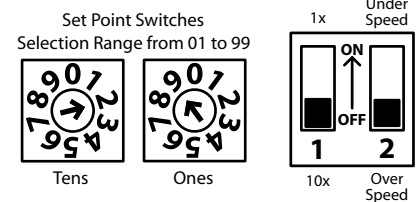

Figure 6: Setpoint Setup
1. Determine whether the relay should de-energize when the shaft speed drops below the set point speed (Under Speed Operation,) or when the shaft speed goes above the set point speed (Over Speed Operation.) Use the Over/Under Speed Selection Switch to place the SS110 in the desired mode (see Figure 6, for switch position.)
The set point is not in the proper range.	See page 2, Figure 6